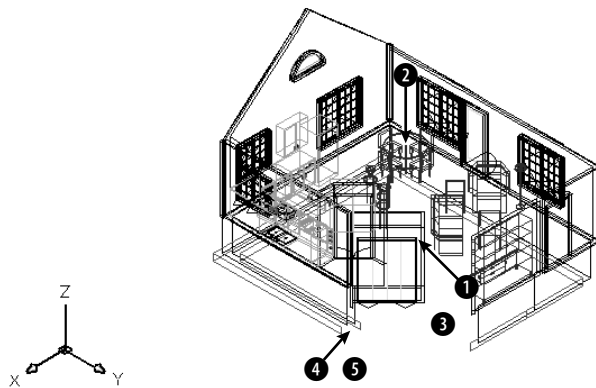

Figure 22-34: The NE isometric view of the house.
4. Choose `View` ⇨ `3D Views` ⇨ `NE Isometric`. The result is as shown in Figure 22-34. This is a quick approximation and helps you to plan your camera and target points. To test for endpoints, start the `LINE` command. Place the cursor at ① in Figure 22-34. The `Endpoint SnapTip` and marker appear. Place the cursor at ②, the top of the table leg. You should see the `Endpoint SnapTip` and marker. Press `Esc` to cancel the `LINE` command without drawing a line.
6. At the main `DVIEW` prompt, right-click and choose `Points`. At the `Specify target point <14'-5 15/16", 21'-9 3/8", 6'-1 1/4">`: prompt, pick the endpoint at ② in Figure 22-34. At the `Specify camera point <14'-6 15/16", 21'-10 3/8", 6'-2 1/4">`: prompt, pick the endpoint at ①.
8. To move the camera point, right-click and choose **Camera**. At the Specify camera location, or enter angle from XY plane, or [Toggle (angle in)] <11.7252>: prompt, type **8 ↵** to lower the camera point slightly. At the Specify camera location, or enter angle in XY plane from X axis, or [Toggle (angle from)] <11.72523>: prompt, move the cursor close to **3** in Figure 22-34, *relative to the screen, not the model*, and click.
11. Right-click and choose **Pan**. At the Specify displacement base point: prompt, pick **4** in Figure 22-34, *relative to the screen, not the drawing*. At the Specify second point: prompt, pick **5** *relative to the screen*. The display moves down.